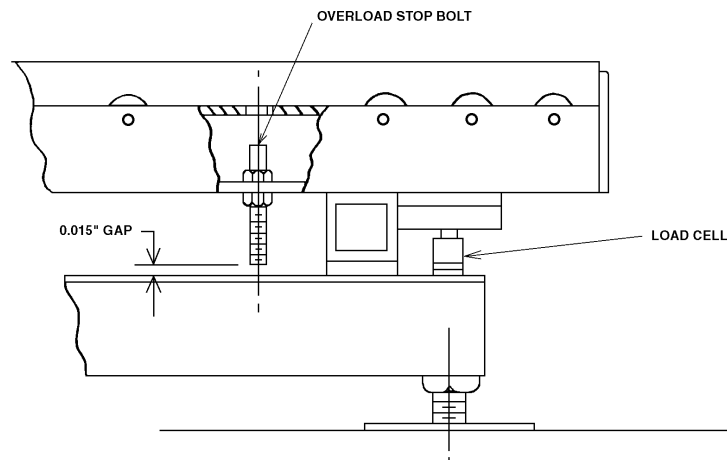

Figure 7-1. Overload Stop/Jacking Bolt
5. If any cell has an unusual signal, remove all load from that cell by using the overload stop/jacking bolt to raise the platform (see Figure 7-1).
- Check the overload stops for proper adjustment (0.015 inch gap) (see Figure 7-1).
5. Unlock the jacking bolt (also used as overload stop bolt) and turn it clockwise to raise the platform corner and remove load from the suspect load cell (see Figure 7-1).